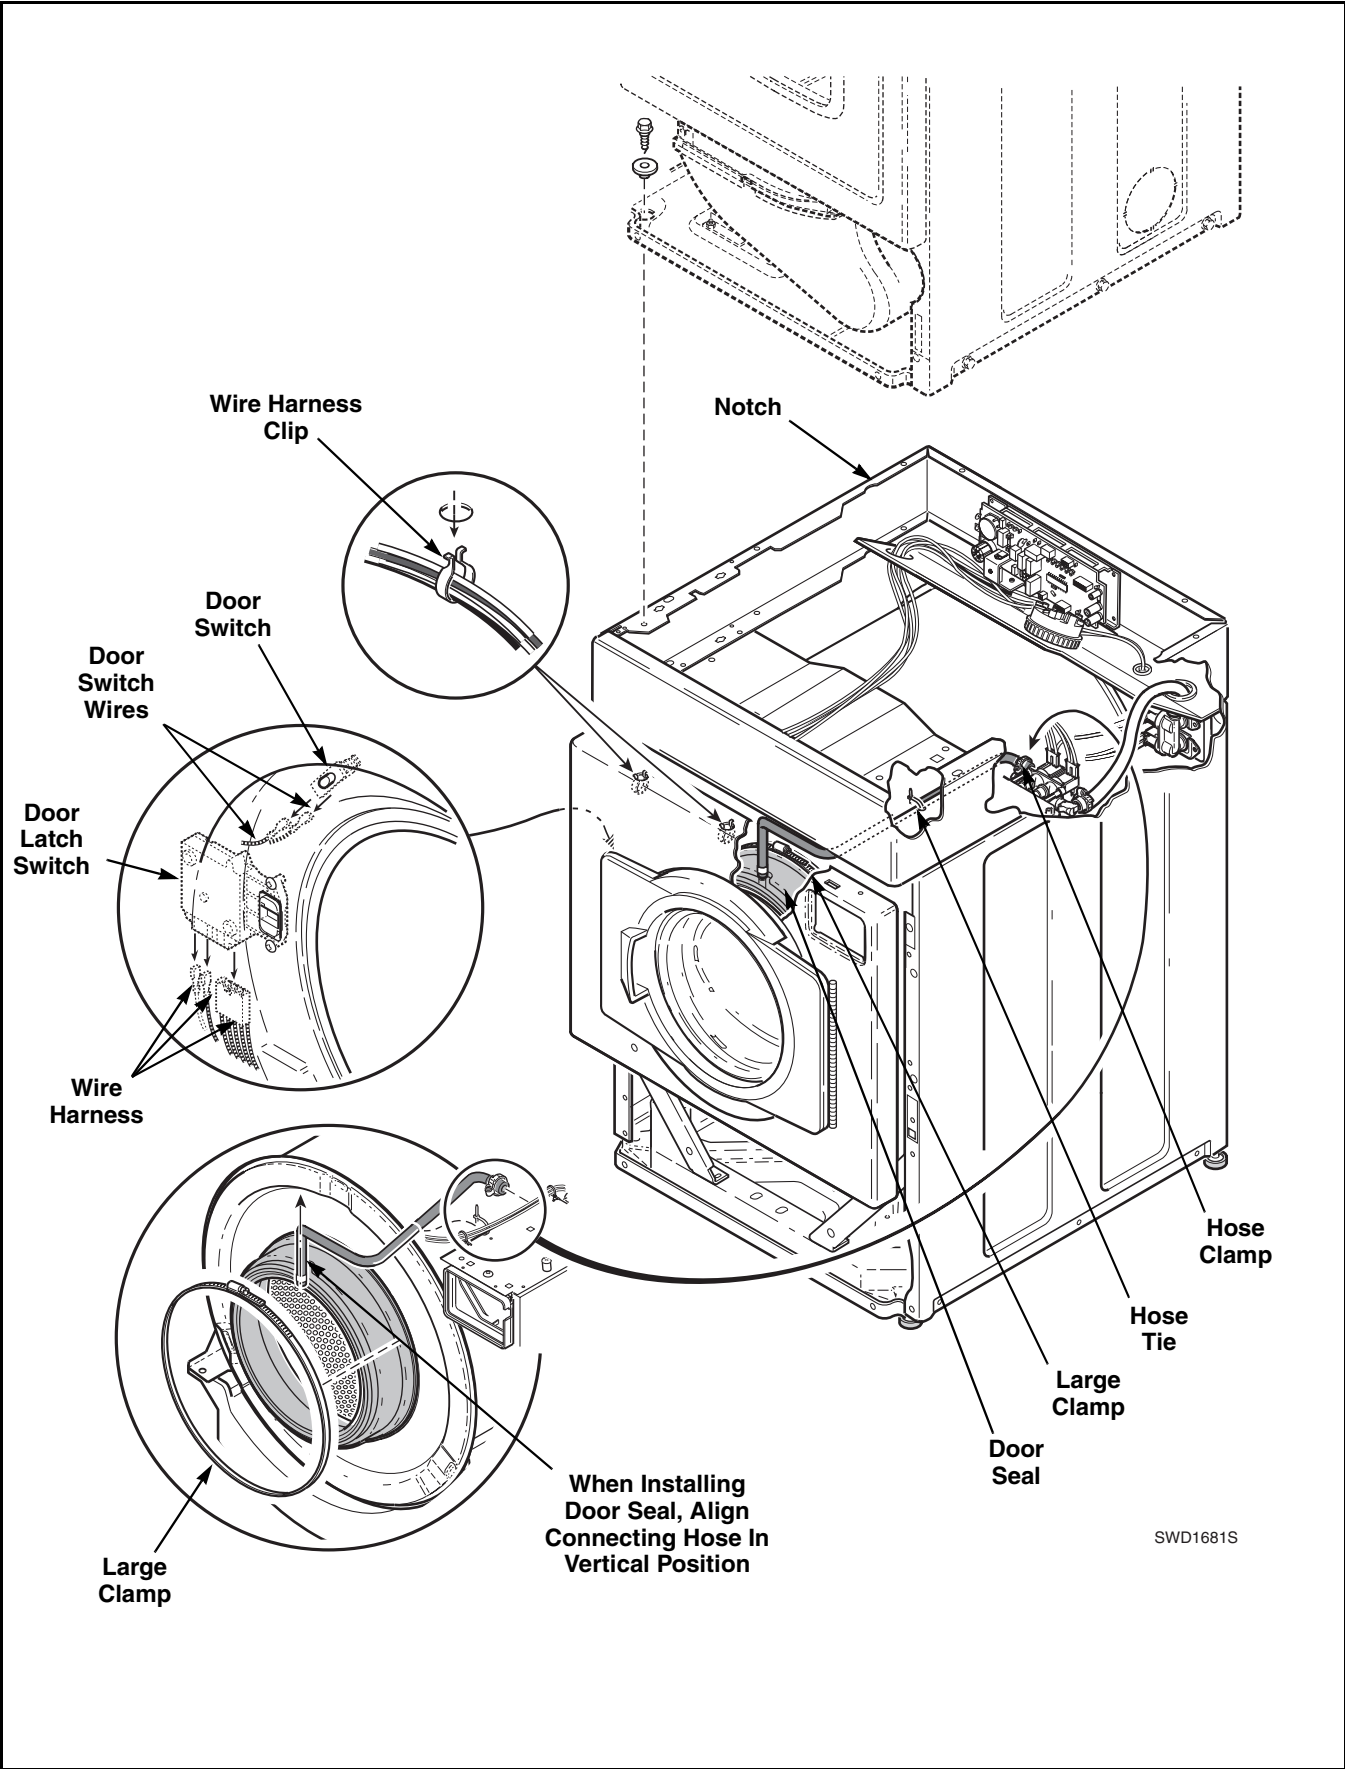

Figure 18
NOTE: Door seal hose and wire harness must be reinstalled in the appropriate clips and holes along top flange of front panel. Refer to *Figure 18*.
- l. Unplug wire harness from both the door latch switch and from the door switch. Refer to *Figure 18*. Remove clips holding wire harness and door seal hose along top flange of front panel and remove front panel.
- m. Loosen hose clamp and remove door seal hose connection at the dispenser. Refer to *Figure 18*.
IMPORTANT: When installing door seal hose, pull hose tie tight to prevent damage. Refer to *Figure 18*.
- n. Loosen hose clamp and remove dispenser valve-to-door seal hose connection at the dispenser. Refer to *Figure 18*.
- o. Loosen large clamp holding door seal to front of outer tub. Carefully pull seal off front lip of outer tub front panel and remove door seal and hose. Refer to *Figure 18*.